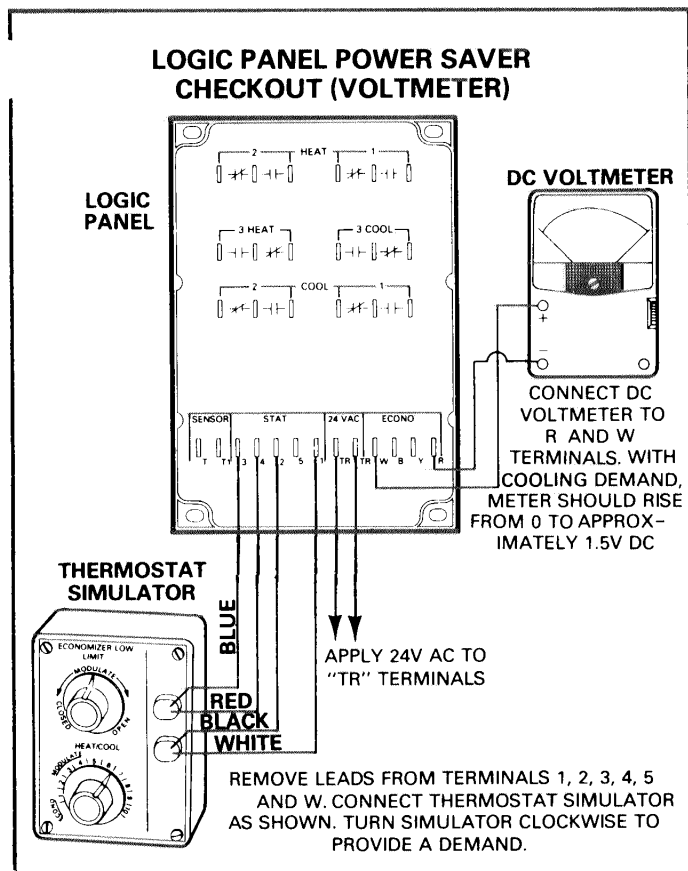

FIGURE 29
- 1 - Disconnect the power saver lead to terminal W on the logic panel and connect simulator as shown in Figure 29. Also connect a DC voltmeter (set to 2.5 volt scale) with negative lead to R and positive lead to W.